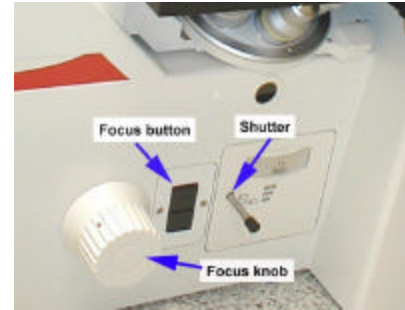

Fig. 2.2 Microscope, lower right
2.2. Putting your sample/slide on the stage – before putting your slide on the stage, make sure that the lens is all the way down (Fig. 2.2), by pressing the lower focus button (■)(Fig. 2.2). Press the upper focus button (■) will bring the objective to the up again.
2.3. Focusing your specimen – Try to focus your specimen first with transmitted light using the focus KNOB (Fig. 2.2). Press the two black focus BUTTONS (Fig. 2.2) simultaneously once to change from fine focus to coarse focus, press again will change it back from coarse to fine.
3.4. Pull the Shutter for scanner (Fig 2.2) all the way out.
- 5.2. Remove your sample from the microscope stage, then lower the objectives by pushing lower focus button (■)(Fig. 2.2).